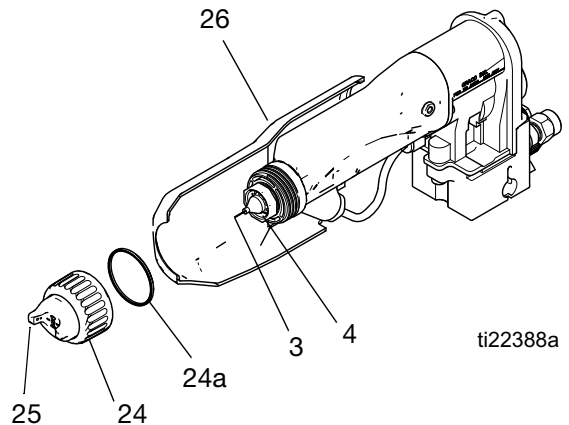

FIG. 16. Clean Air Cap and Fluid Nozzle
3. Remove the air cap assembly (24, 25) and shroud (26). See FIGURE 16.
4. Wipe the fluid nozzle (4), shroud (26), and exterior of the gun clean with a cloth dampened in solvent. Avoid getting any solvent into the air passages. Whenever possible, point the gun down when cleaning it.
5. If it appears that there is paint inside the fluid nozzle (4) air passages, remove the gun from the line for servicing. See **Air Cap/Nozzle Replacement on page 42** to remove the fluid nozzle for cleaning or replacement.
6. Clean the air cap (25) with the soft bristle brush and solvent or submerge the air cap in suitable solvent and wipe it clean. Do not use metal tools.
7. Slide the shroud (26) onto the gun.
8. Carefully install the air cap (25). Be sure to insert the electrode (3) through the center hole of the air cap. Rotate the air cap to the desired position.
9. Make sure the u-cup (24a) is in place on the retaining ring (1). The lips must face forward. Tighten the retaining ring until the air cap is held firmly in place; you should not be able to rotate the air cap horns by hand.